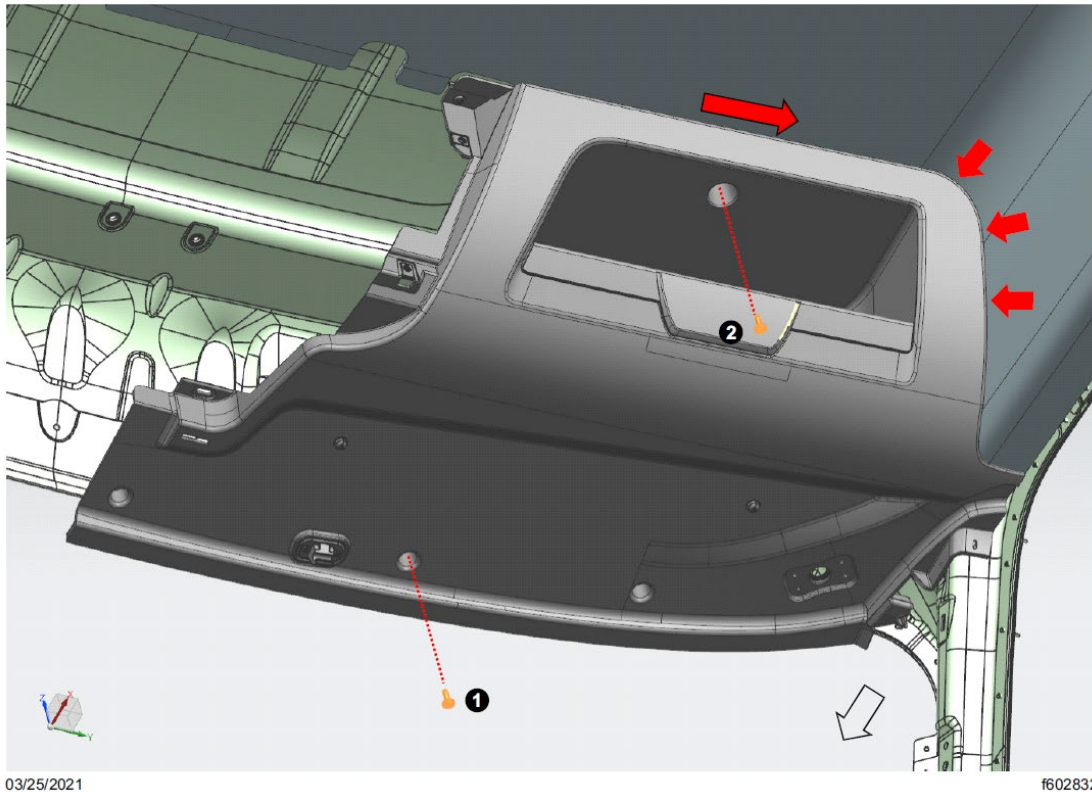

Fig. 24, Install Fasteners That Attach the RH Side Overhead Storage Cabinet to the Cab Roof
- 6.2. Apply pressure in the direction shown, and then install the two fasteners that attach the RH side overhead storage cabinet to the cab roof. Tighten the fasteners 11 to 13 lbf.ft (14 to 18 N.m) as per the sequence shown in Fig. 24.